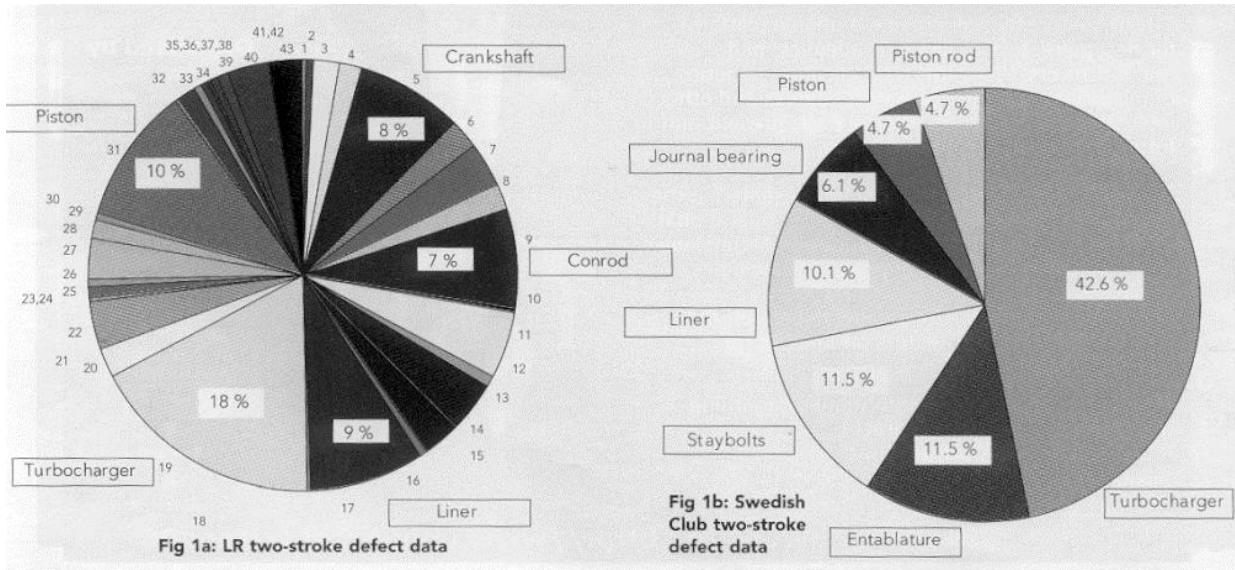

Fig.1a, Fig1b.
Two-stroke diesel engines comprised a population of 5025 units, average age 6.1 years, for which a total of 6130 defects were reported in LR database. For contrast a population of 135 defects supplied by marine insurer the Swedish Club were also studied. Figure 1a and 1b show that for the two-stroke main propulsion diesel engines, turbocharger defects comprised 18% and 42.6% of the total defects for the Lloyd's Register's and the Swedish Club's data respectively and were the most recurring defects by a clear margin.
4.2. Analyze Figures 1a and 1b and Figure 2 in the article and fill in the gaps in the given sentences with one of the appropriate words from the box above in Task 4.1.